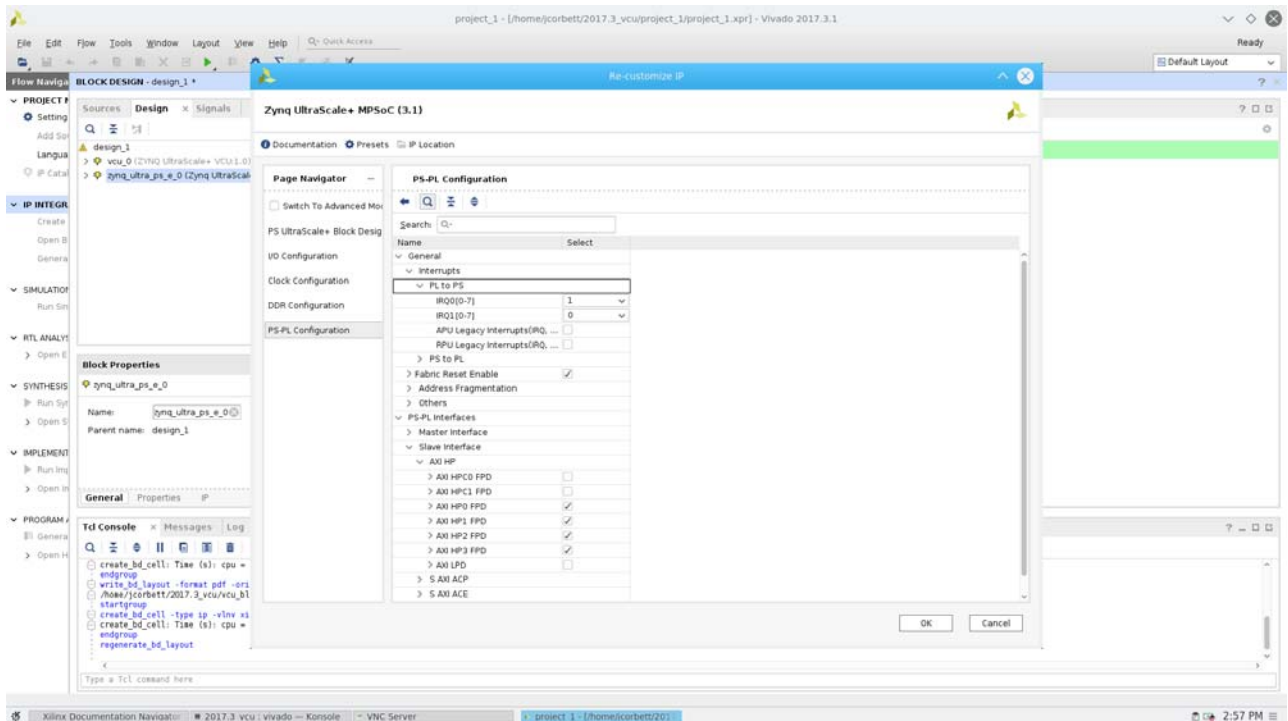

Figure 10-9: Output PL-PS Configuration
12. Enable IRQ0 [0-7] and HP0-3 ports as shown in Figure 10-9.